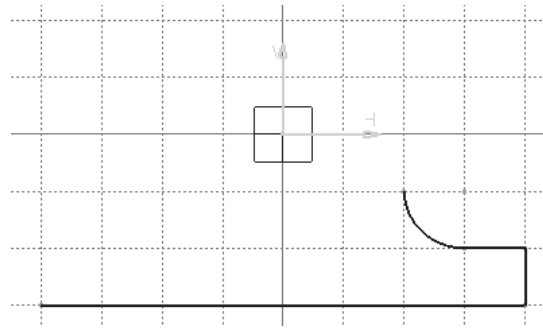

Figure 1-41 The sketch after drawing the three lines and a tangent arc
- Draw the sketch of the model using the **Profile** and **Rectangle** tool, refer to Figures 1-41 through 1-43.
9. Move the cursor to a location whose coordinates are 20, -10 and specify the endpoint of the tangent arc. Figure 1-41 shows the sketch, after drawing the three lines and tangent arc. The system switches back to the **Line** mode.